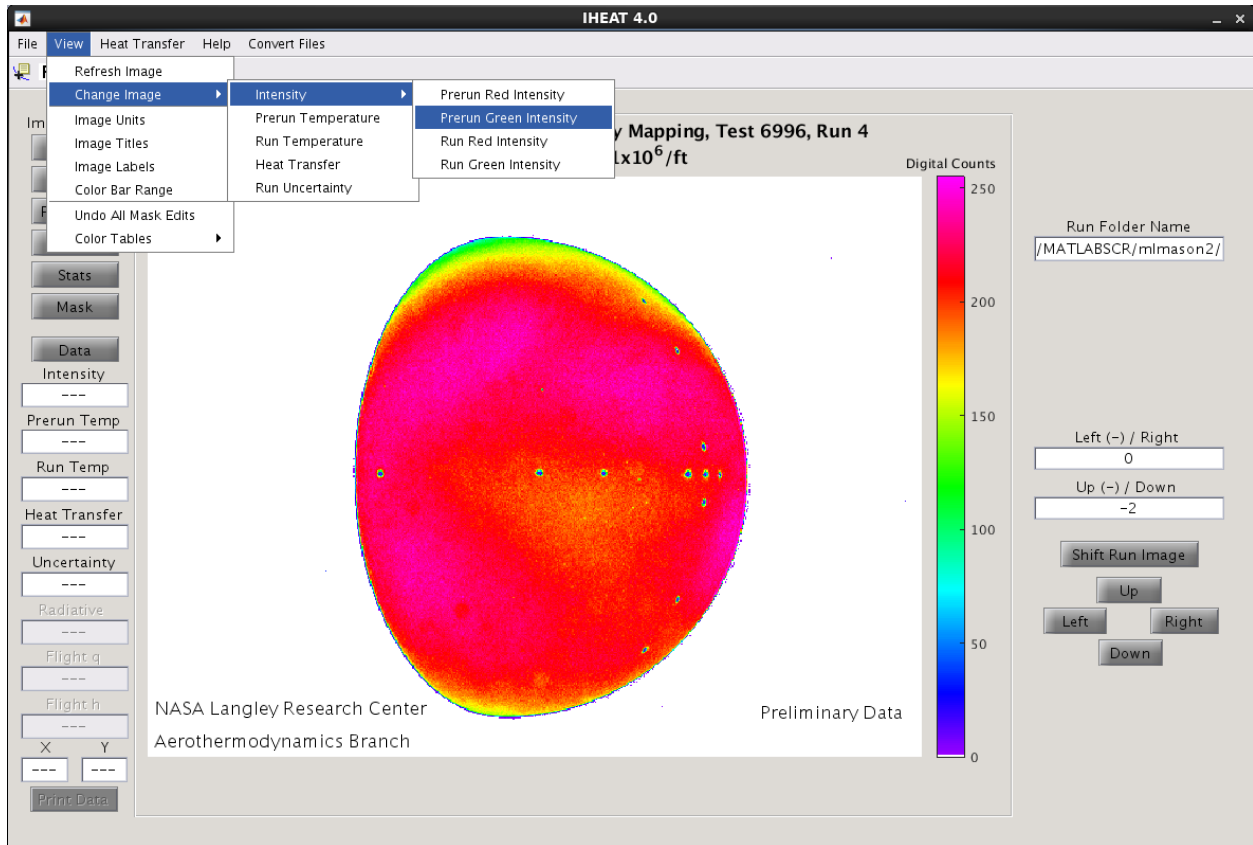

Figure 5: View Menu, Change Image.
2. The next item on the *View* menu is *Change Image*. The options under this item change from the eight items in figure 5 for an individual frame, to five items if *Load Run* is used, or four items if *Batch* is used. The intensity images are the red or green color planes of the images. The following outline shows which options are available for the three types of data processing.